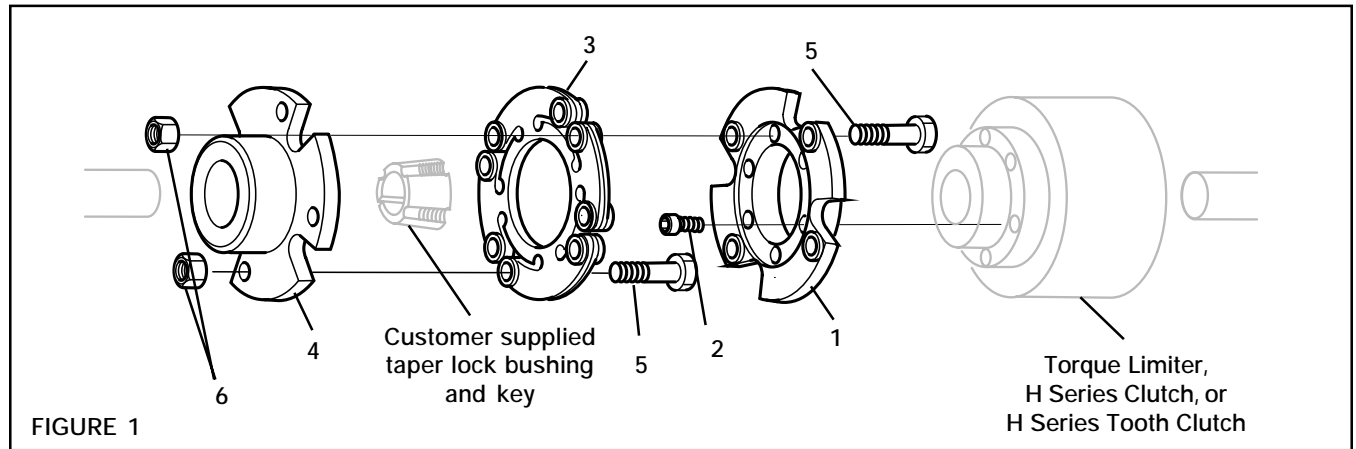

FIGURE 1
1. Insert the taper lock bushing into the Coupling Hub (Item 4). (See Figure 1).
2. Slide the Coupling Hub (Item 4) with the customer supplied taper lock bushing and key onto one shaft; then, install the set screws provided with the taper lock bushing (See Figure 1).
3. Using the Socket Head Cap Screws (Item 2), attach the Coupling Adapter (Item 1) to the Clutch or Torque Limiter (See Figure 1).
5. Slide the Coupling Adapter with the Clutch or Torque Limiter onto the other shaft (See Figure 1).
9. Insert the Disc Pack (Item 3) between the Coupling Adapter (Item 1) and the Coupling Hub (Item 4) (See Figure 1).